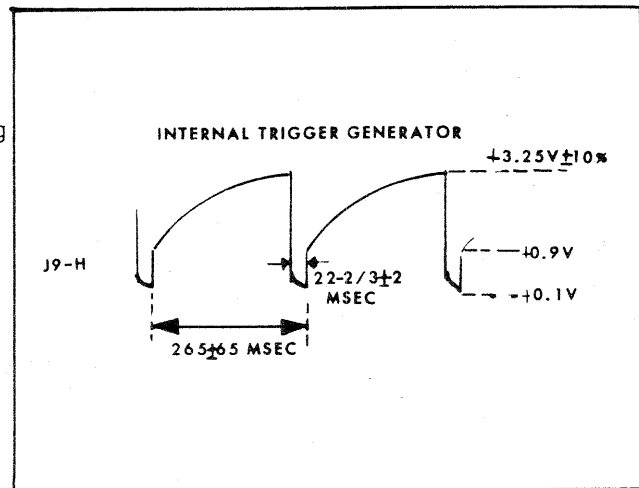

Fig. 5-3. Waveform at Connector J9, pin H.
e. TRIGGER check. Check waveform at J9 pin H (HOLD) at rear panel connector. A pulse waveform at frequency of 3 to 5 per second indicates proper operation of internal trigger circuit Q1 (see Figure 5-3).